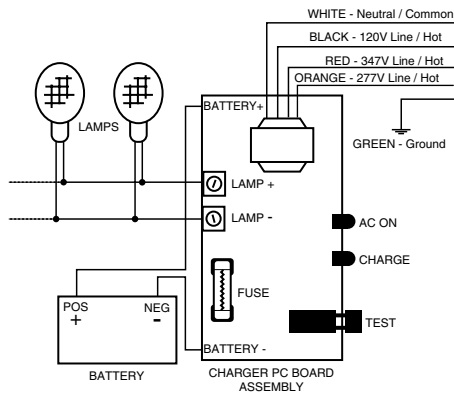

Figure 5
7. Connect the wire lead(s) from the positive circuit board terminal (+) to the positive terminal connector on the battery (Figure 3). For large units the batteries may be shipped separate from the cabinet. Install the batteries into the cabinet and make the appropriate inter-battery connections (Figure 5).
10. Close lens and secure with (2) screws.